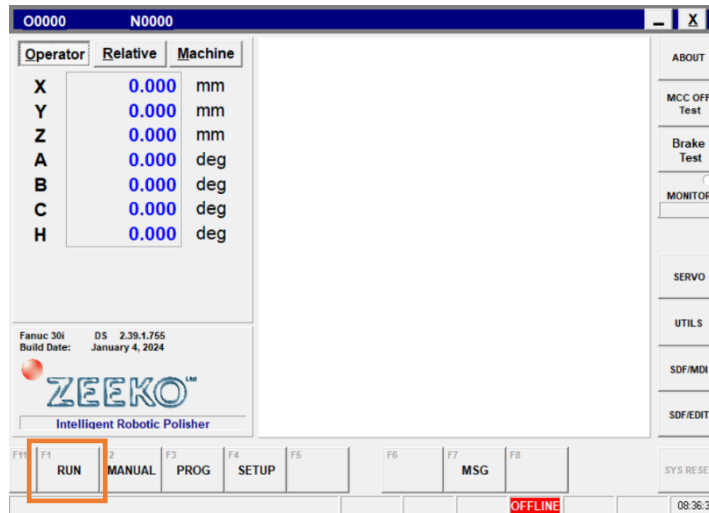

Figure 23 - Main screen - Run option
- A variety of pre-defined CNC programs are available to the operator from the “RUN” page: See (Figure 23 - Main screen - Run option).